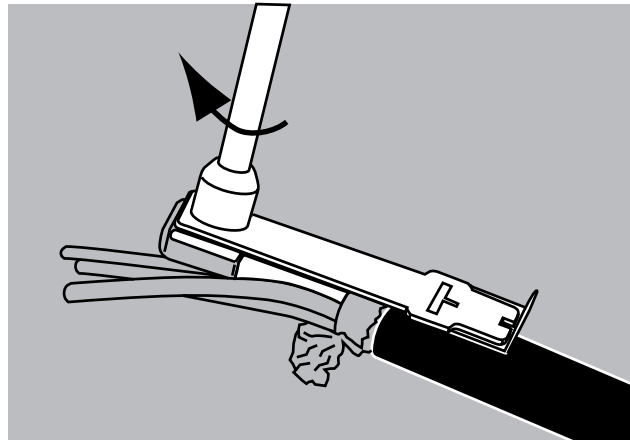

FIGURE 17
17. Secure the strength member tightly under the strength member clamp. (Figure 17)